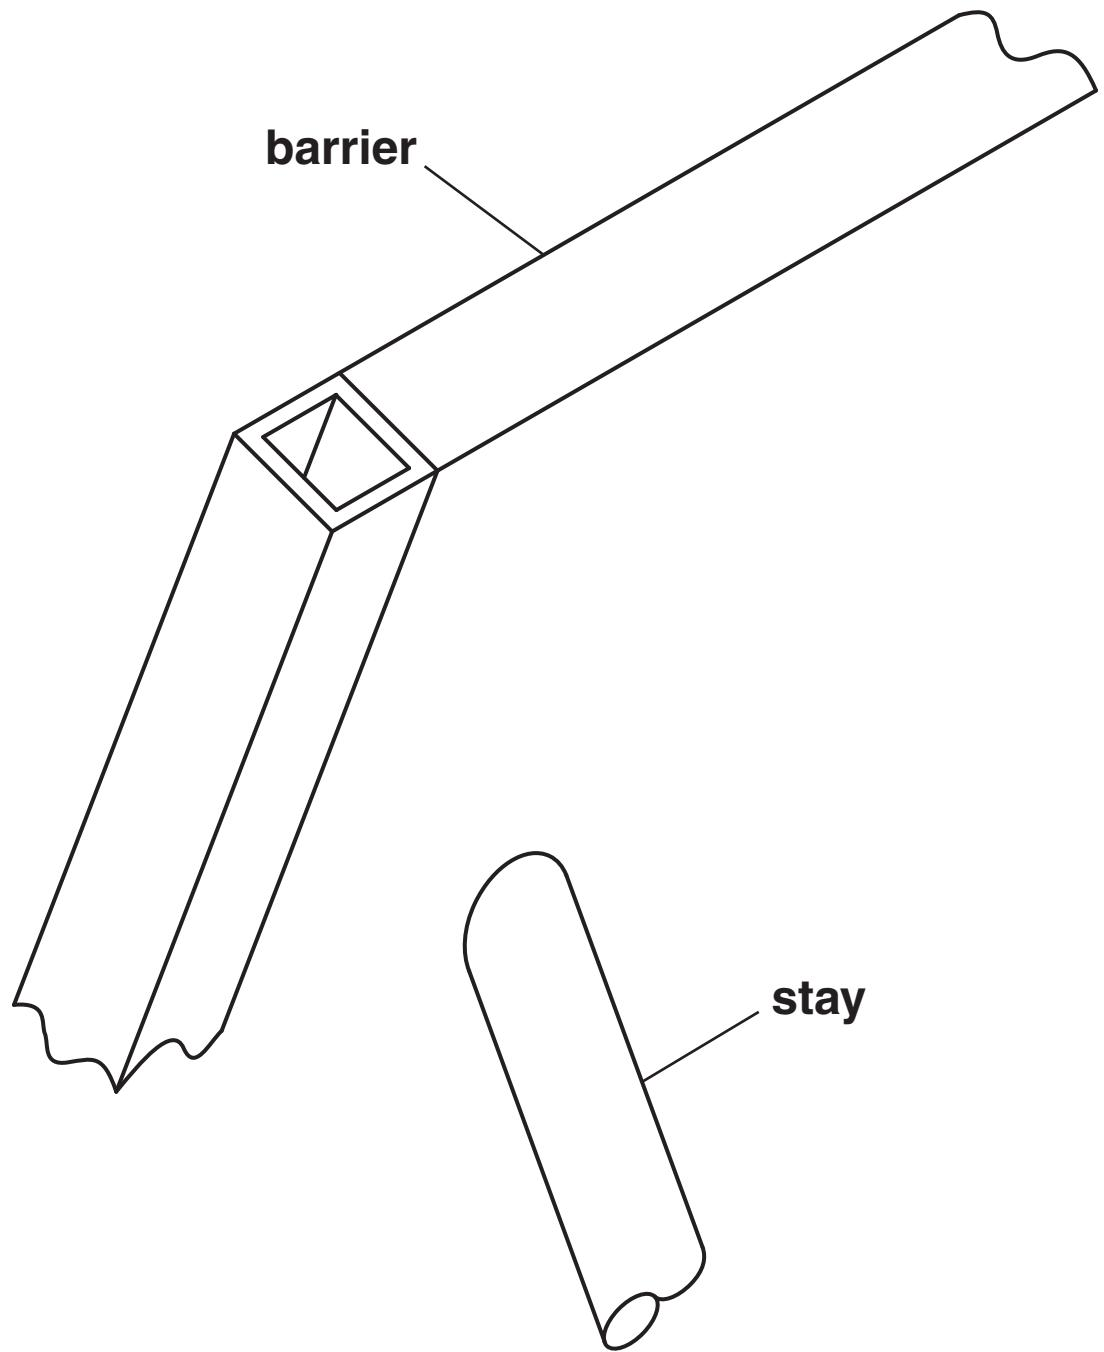

Fig. 4
- (e) Fig. 4 (opposite) shows part of the barrier and stay. The adjustable stays need to be securely attached to the top of the barrier.
Design a fitting on Fig. 4 that will: